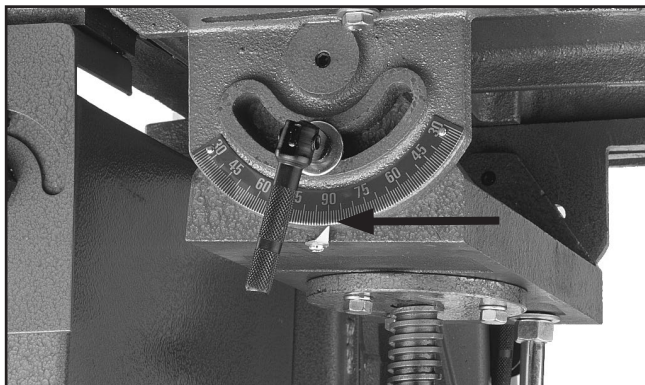

Figure 25. Pointer set to 90°.
16. Adjust the work table perpendicular to the sanding platen, tighten the table lock handles, then adjust the pointer to 90° (**Figure 25**).